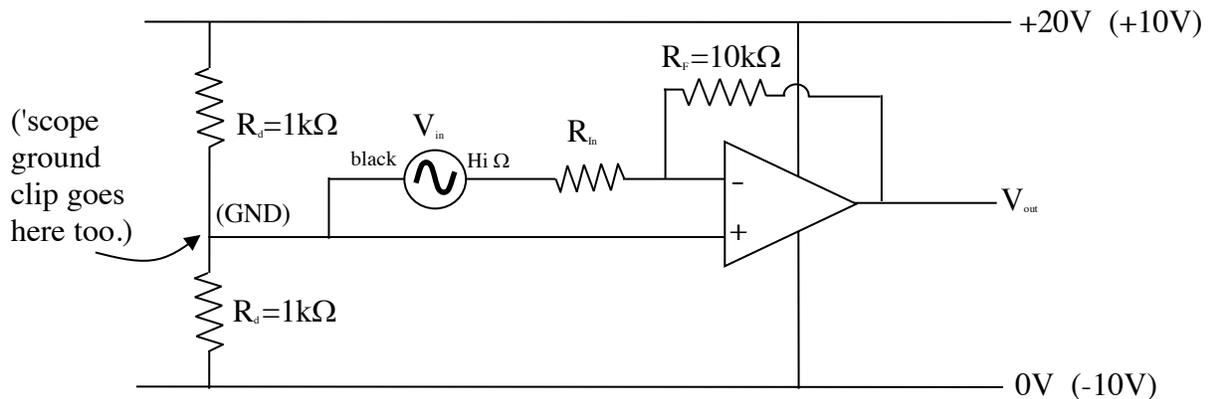

Figure 2: Using a positive DC power supply to "offset" a ground
We'll "fool" the op amp into "thinking" we have DC power of $+V = 10V$ and $-V = -10V$ using a 20V power supply and a voltage divider, such that the middle of the voltage divider will serve as the "ground" (GND) for the op amp. Thus, the circuit we build is shown in Figure 2 -- but **don't build it yet!** Keep reading until the instructions tell you to build it.
1. Build the circuit shown in Figure 2, using $R_i=1k\Omega$, $R_f = 10k\Omega$. Use the nominal color-code values of R_{in} as shown in parenthesis on the data sheet (next page) to select your resistors, but use an ohmmeter and write in the *actual* values of the resistors.